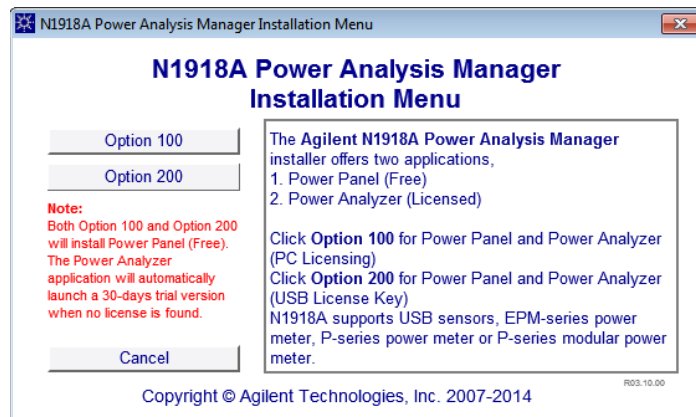

Figure 6 Option 100 and Option 200 in the Installation Menu
- 5 The installation menu now indicates two options you may choose from to install the license required to activate the Power Analyzer, as shown in **Figure 6**.